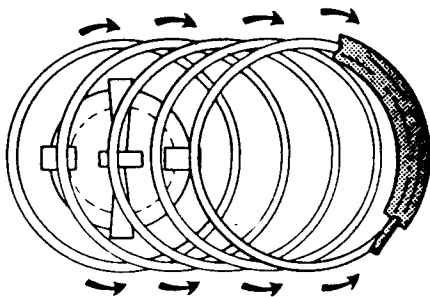

Figure 16
6. Check helix end position for each tray. Trays 1, 2, 3, and 5 should have helix end positions at "5 o'clock". Tray 4 should have a helix end position of "2 o'clock" (see figs. 16 - 18). For trays 1, 2, and 5, helix end should be *inside* the film adapter.